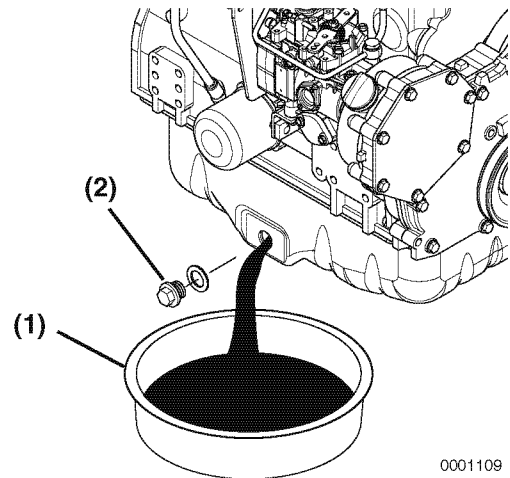

Figure 5-10
5. Position a container (**Figure 5-10, (1)**) under the engine to collect waste oil.
6. Remove the drain plug (**Figure 5-10, (2)**). Allow oil to drain.
After all oil has been drained from the engine, install the drain plug (**Figure 5-10, (2)**) and tighten to 14-17 ft lbs (19.6-23.5 N•m, 2.0-2.4 kgf•m).